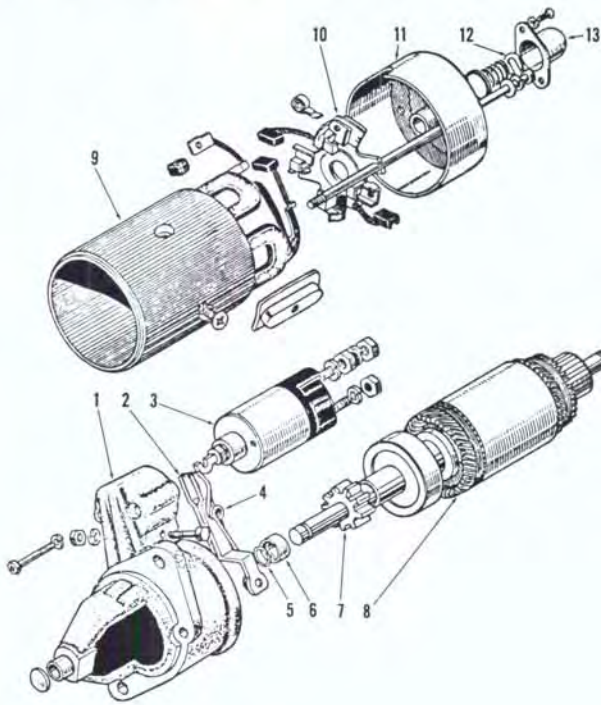

Fig. 78—Exploded view of starter motor of type used.
86. An exploded view of starter assembly is shown in Fig. 78. To disassemble removed starter, first unbolt and remove solenoid (3), unhooking plunger from drive lever (2) after solenoid body is removed. Remove pivot bolt for drive lever (2). Remove through-bolts and drive-end housing (1). To remove armature (8), first remove bearing cap (13) and retaining ring (12).